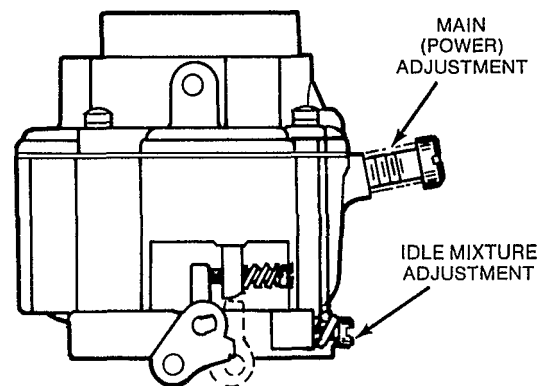

FIGURE 13. CARBURETOR FUEL MIXTURE ADJUSTMENTS
The "LPG" generator set carburetor has two mixture adjustments, an idle mixture which affects operation mainly at no load and a main (power) adjustment which affects operation at maximum load (Figure 13). If your generator set has a "hunting" (sudden surges and drops in speed) condition at no load or full load and cannot be corrected by carburetor adjustments, check governor linkage and adjustment. A hunting condition at no load can usually be corrected by a carburetor idle mixture and/or throttle stop screw adjustments.
1. Turn idle mixture screw out (counterclockwise) 1/2 of a turn from seated position. See Figure 13.
2. Turn main mixture screw out (counterclockwise) 1-5/8 turns from seated position. See Figure 13.
- Hold back governor so that throttle lever rests on throttle stop screw. The throttle stop screw is located on the base of the carburetor. Adjust throttle stop screw to 1680 RPM (56 hertz or 112 volts). See Figures 13 and 16. Release governor arm.
- Apply full AC load to generator set and adjust main mixture screw with set running at 1800 rpm (60 Hz). Starting with nominal carburetor settings, turn main screw clockwise (lean) until speed increases to max rpm (about 1-1/2-2 hertz more), then richen mixture 1/8 turn (counter-clockwise) from max rpm point. See Figure 13.
10. Remove all load to generator and adjust idle mixture screw as follows: Adjust throttle stop screw to hold governor at 1800 rpm (60 Hz). Turn idle screw lean, from nominal setting, (clockwise) until speed falls 50 rpm (about 1-1/2 Hz), then richen mixture 1/2 turn from that point. Re-adjust throttle stop screw to 56 HZ. See Figure 13 and 16.